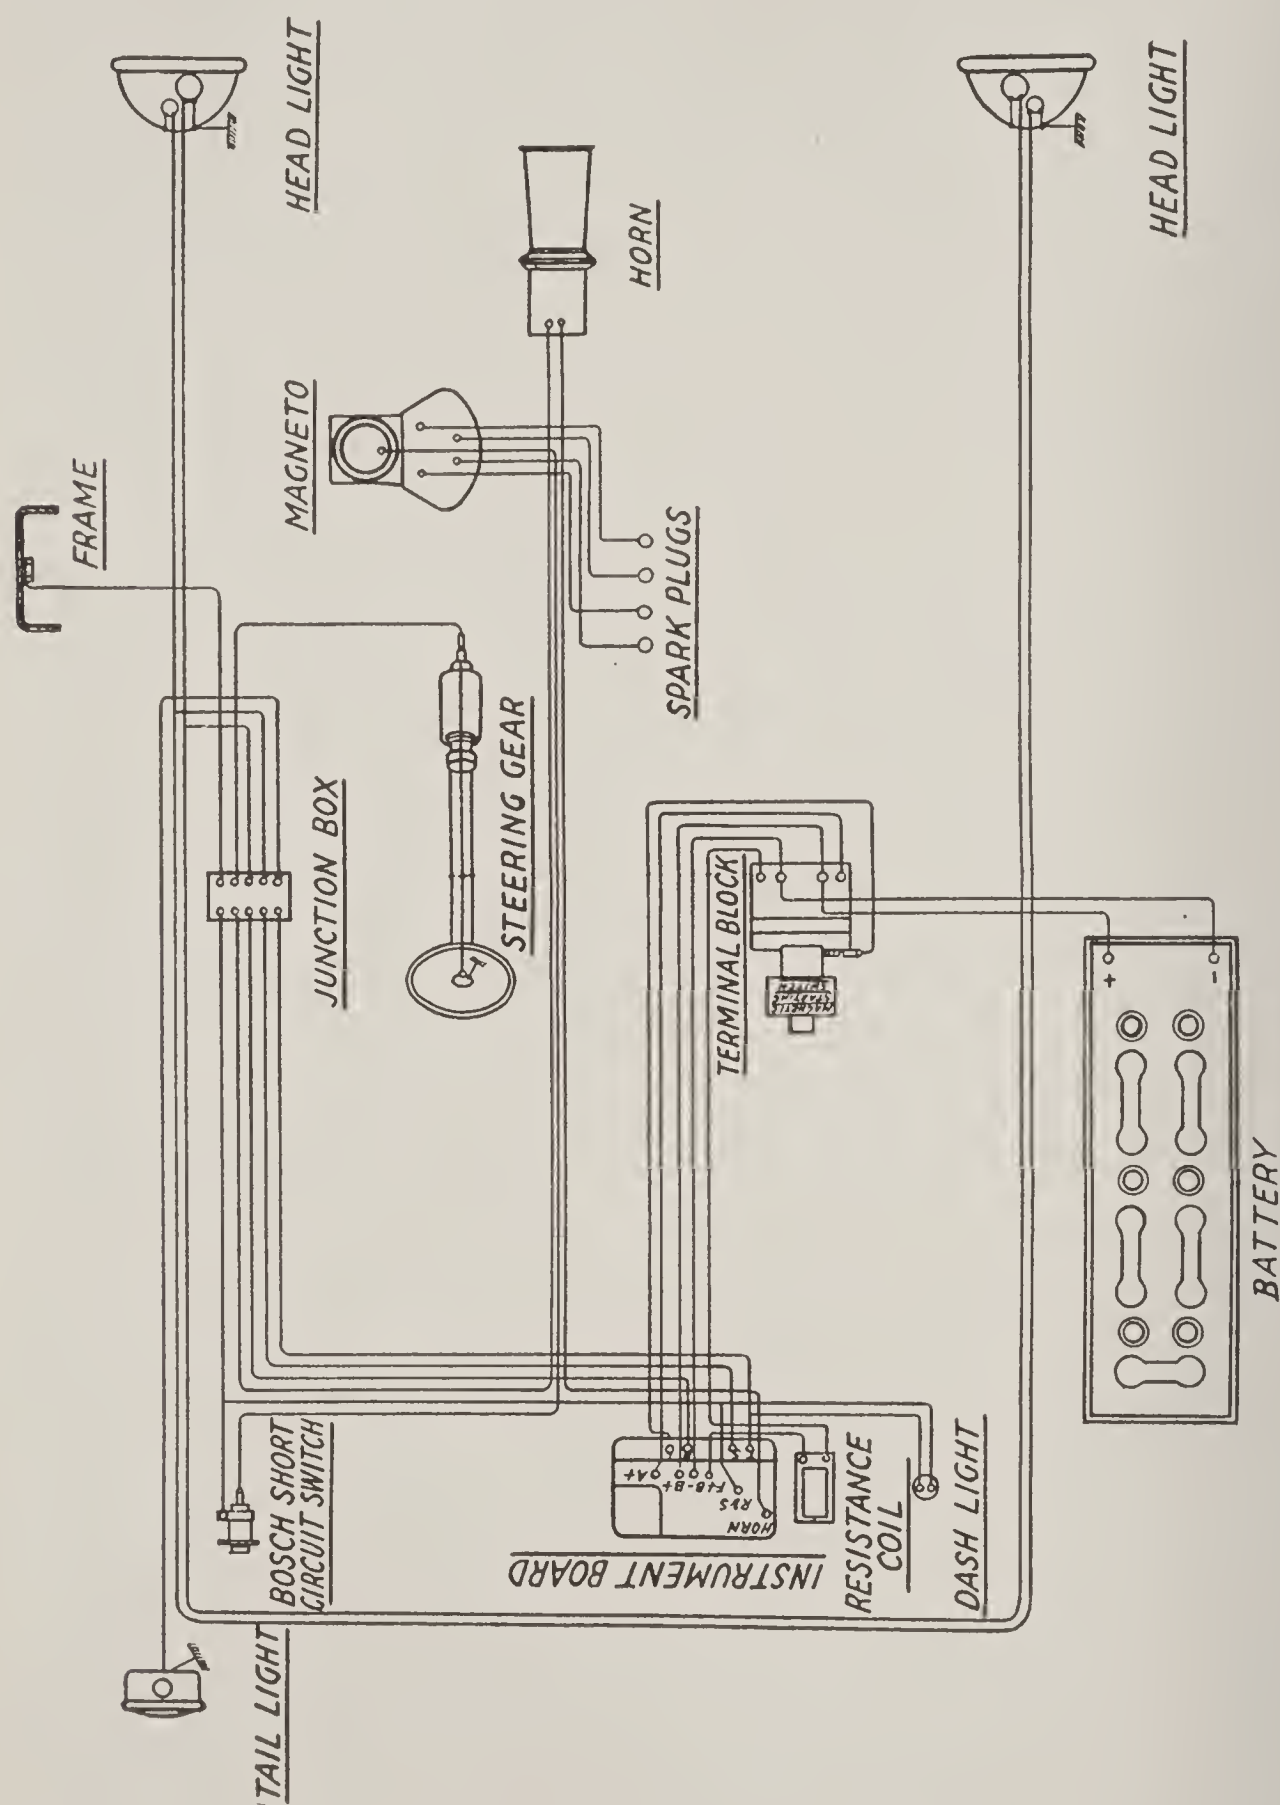

Fig. 338. Wiring Diagram of U.S.L. System on 1917 Mercer Cars
U.S.L. 12-Volt System. The U.S.L. 12-volt system generates and starts at 12 volts and is standard on the 1916 and 1917 models of the Mercer, Fig. 338. It differs from the other systems in having a magnetically operated starting switch and a centralized control unit, which incor-